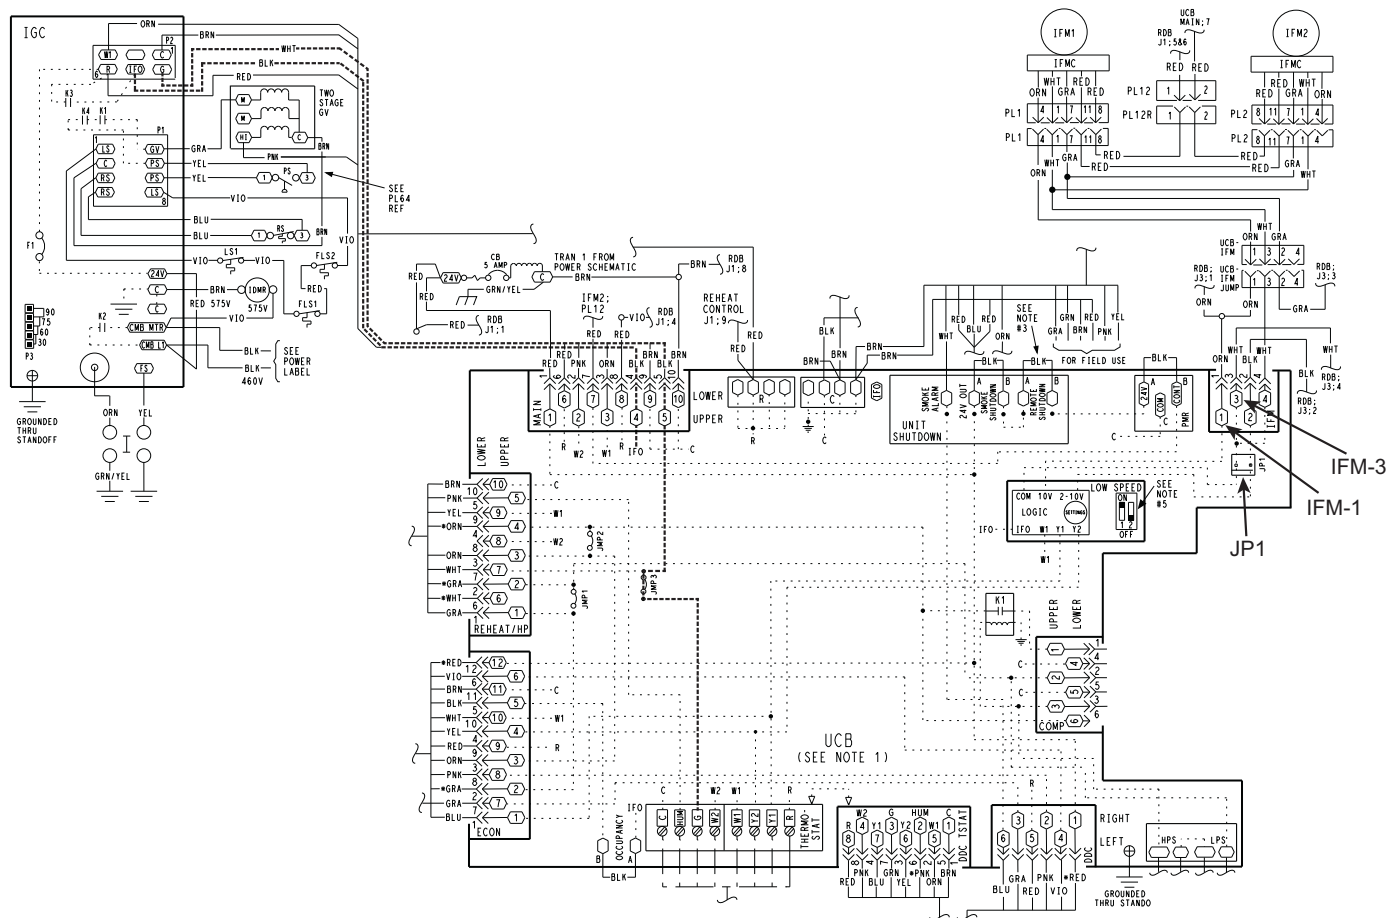

Fig. 12 — Supply Fan Control Wiring Diagram
5. Check for proper motor control voltage signal of 9.7 vdc to 10.3 vdc at PL1 ORG-WHT. See Fig. 12.
6. Check for proper motor control voltage signal of 9.7 vdc to 10.3 vdc at IFM-1 and IFM-3 on the Unit Control Board (UCB). See Fig. 12.
8. Confirm 24v into and out of the Integrated Gas Control (IGC) board. See the thick dash lines in Fig. 12.
9. Verify control signal from user speed selection switch by placing voltmeter on JP1 pins (see Fig. 12). Signal should be between 3.8 vdc and 10.3 vdc.